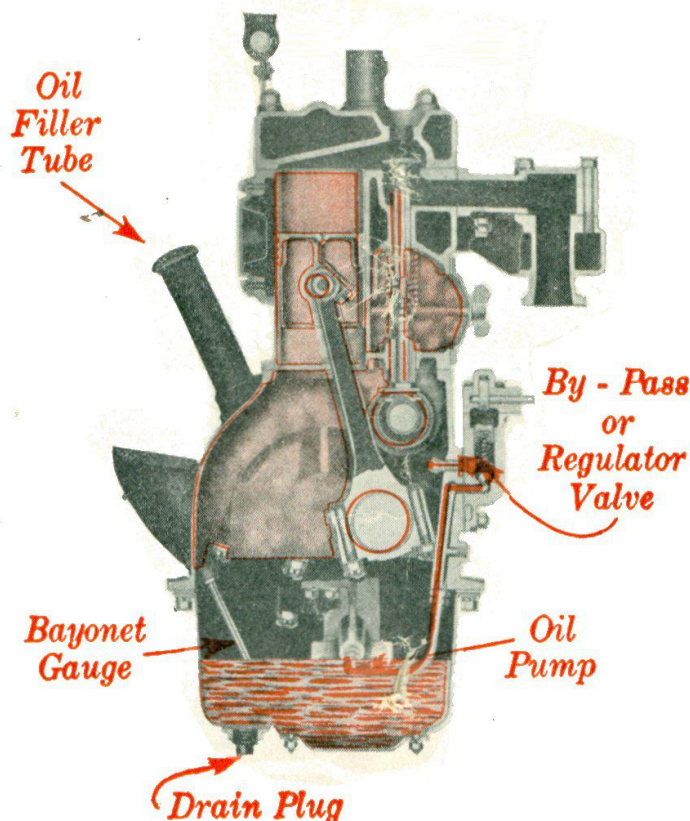

Figure 5—Cross sectional view of engine.
**OIL SUPPLY:** The oil filler tube is located on the right side of the crankcase, figure 2 and figure 5.